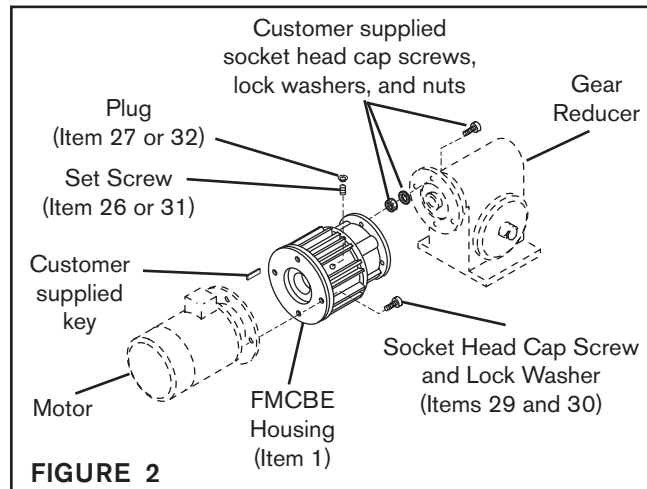

FIGURE 2
4. Slide the FMCBE output shaft into the gear reducer (See Figure 2).
5. Secure the FMCBE to the gear reducer, using customer supplied socket head cap screws, lock washers, and nuts (See Figure 2).
8. Insert the customer supplied key into the motor shaft keyway (See Figure 2).
9. On Model 625, secure the FMCBE to the motor using Socket Head Cap Screws (Item 29) and Lock Washers (Item 30) and tighten them to the recommended torque (See Table 1 and Figure 2).
11. Tighten the Set Screw and install the Plug (See Figure 2).